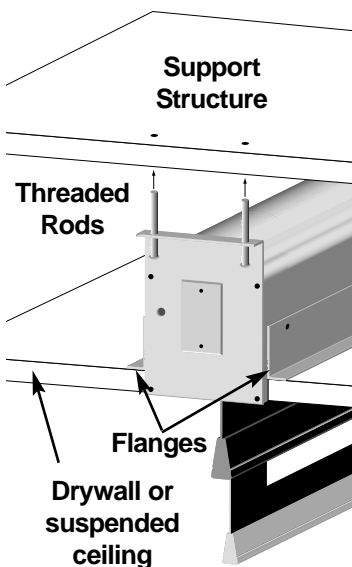

Figure 3: Recessed or concealed mount
3. Drywall or other ceiling material may be screwed directly to the ceiling flanges (plaster "ears") on the case. Refer to Figure 3.